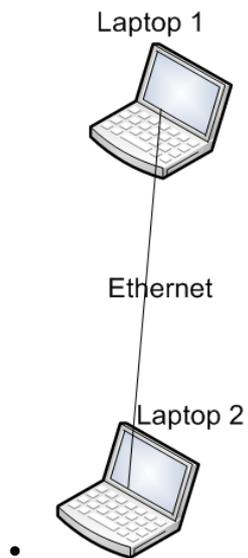

Figure 17. Two Laptops Connected
- Check that file transfer/ping works with straight connection between computers/other devices (connect the two computer/devices to each other with a crossover copper cable, see Figure 17)